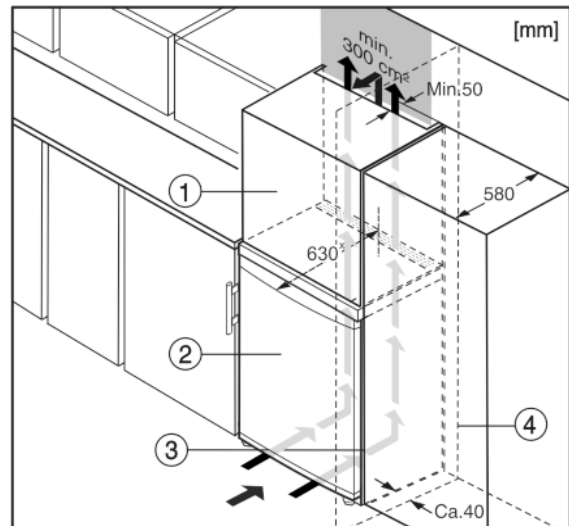

Fig. 8
- (1) Stack cabinet
- (2) Appliance
- (3) Kitchen cabinet
- (4) Wall
The appliance can be built into kitchen units. A top cupboard Fig. 8 (2) can be added above the appliance in order to bring the appliance Fig. 8 (1) up to the height of the fitted kitchen units.
When installing with kitchen units (max. depth 580 mm), the appliance can be positioned directly next to the kitchen cabinet Fig. 8 (3). The appliance will project by 34 mm * at the sides and 50 mm * in the centre of the appliance in relation to the kitchen cabinet front.
If the appliance is installed with the hinges next to a wall *Fig. 8 (4)*, the distance between appliance and wall has to be at least 40 mm. This corresponds to the projection of the handle when the door is open.